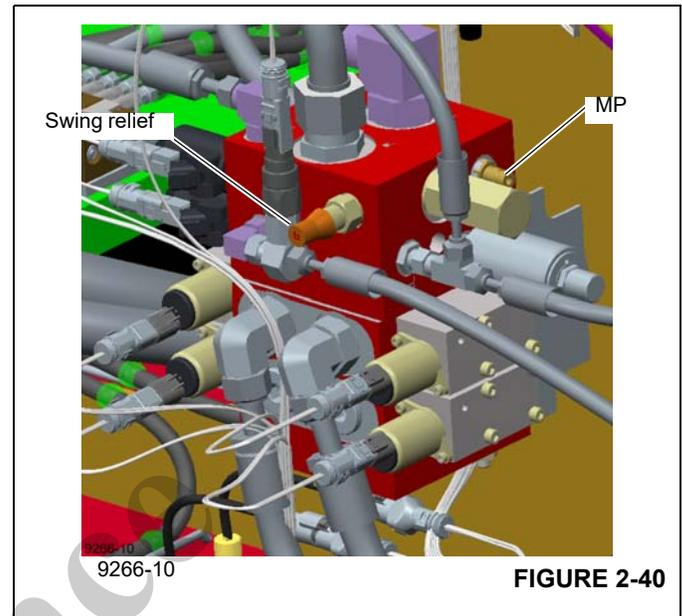

FIGURE 2-40
nipple at the MP port of the swing control valve (see Figure 2-40).
2. Start engine and idle. Depress and hold the swing brake pedal. Feather into the swing function (left or right) until full controller stroke is reached and hold. Slowly accelerate the engine to full RPM. The reading at MP should be 2750 ± 50 PSI (190 ± 4 bar) if it is not adjust the swing relief (Figure 2-40) "in" to increase or "out" to decrease until the reading is achieved.